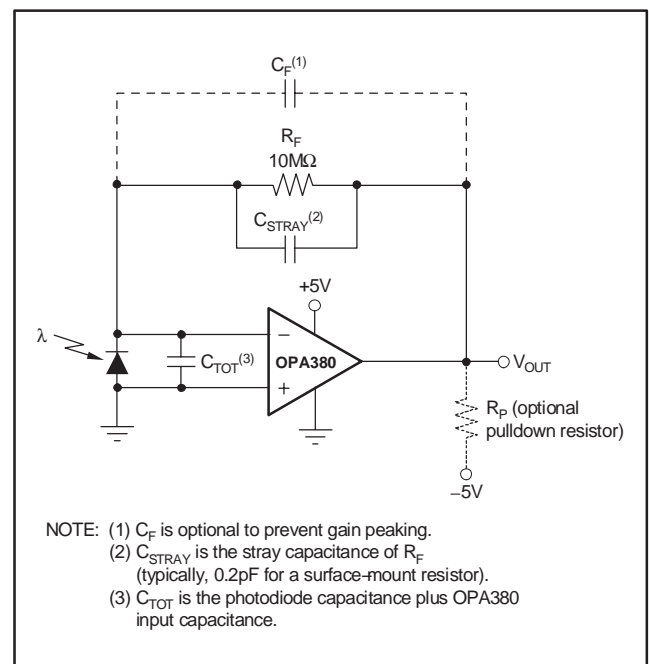

Figure 5. Transimpedance Amplifier
- (1) 300-hour life test at 150°C demonstrated randomly distributed variation approximately equal to measurement repeatability of $1\mu\text{V}$.
- (2) Tested with output connected only to R_P , a pulldown resistor connected between V_{OUT} and $-5V$, as shown in Figure 5. See also applications section, *Achieving Output Swing to Ground*.
- (3) Transimpedance frequency of 1MHz .
- (4) Time required to return to linear operation.
- (5) From positive rail.
The key elements to a transimpedance design are shown in Figure 5: